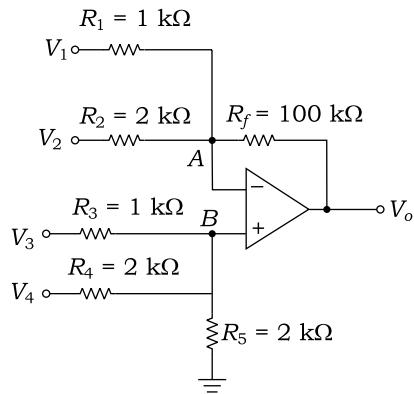

Fig. 7.106
26. Figure 7.106 shows an operational amplifier circuit. Determine the output voltage V_o . Assume $V_1 = 3 \text{ V}$, $V_2 = -5 \text{ V}$, $V_3 = 2 \text{ V}$ and $V_4 = -2 \text{ V}$